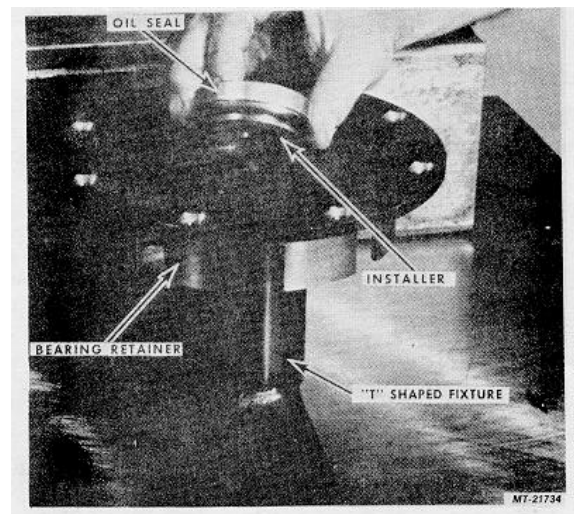

Fig. 42
5. Lubricate the seal contact diameter of Installer SE-2782-4 with engine oil. Place Oil Seal on the Installer SE-2782-4 with the lip exposed as shown, Fig. 42.